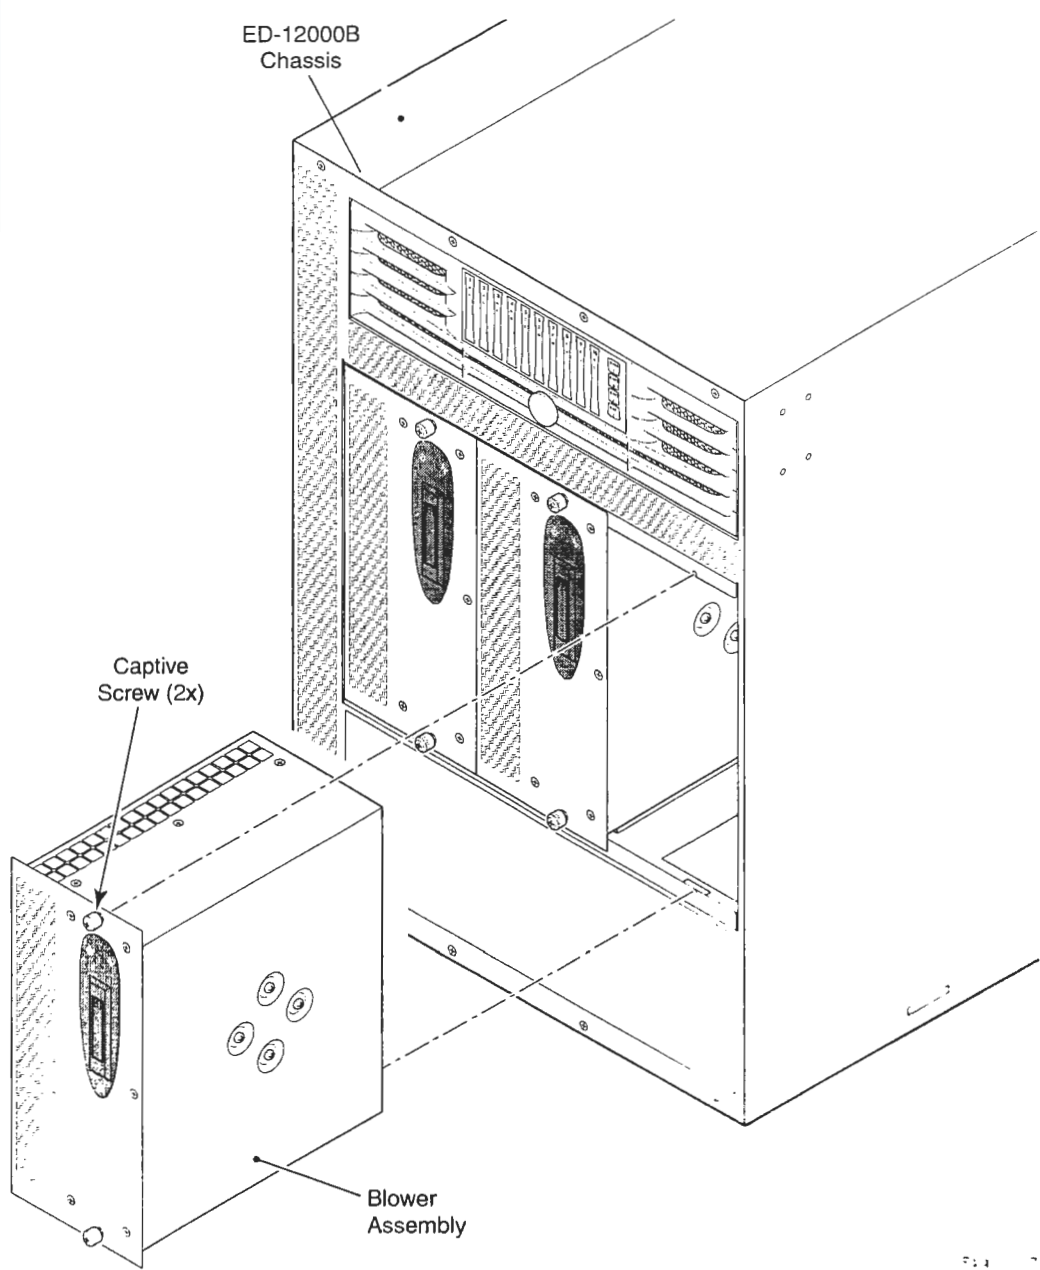

Figure 4-6 Blower Assembly Side of ED-12000B (shown with one blower assembly uninstalled)
The blower assembly Power LED should be steady green and the Fault LEDs should not be lit (see Figure 4-6 on page 4-38 for LED locations).
- a. Orient the blower assembly as shown in Figure 4-6 and slide into the chassis, pushing firmly to ensure it is seated.